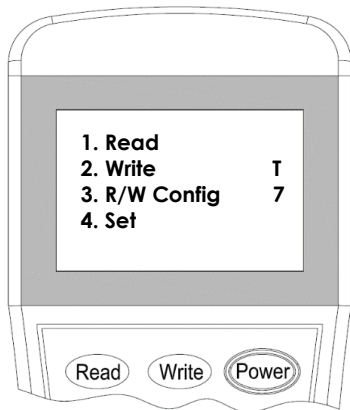

Figure 3
2. Switch-on the programmer, then press button **"Write"** or number **"2"** to enter Write Address mode (Figure 3).